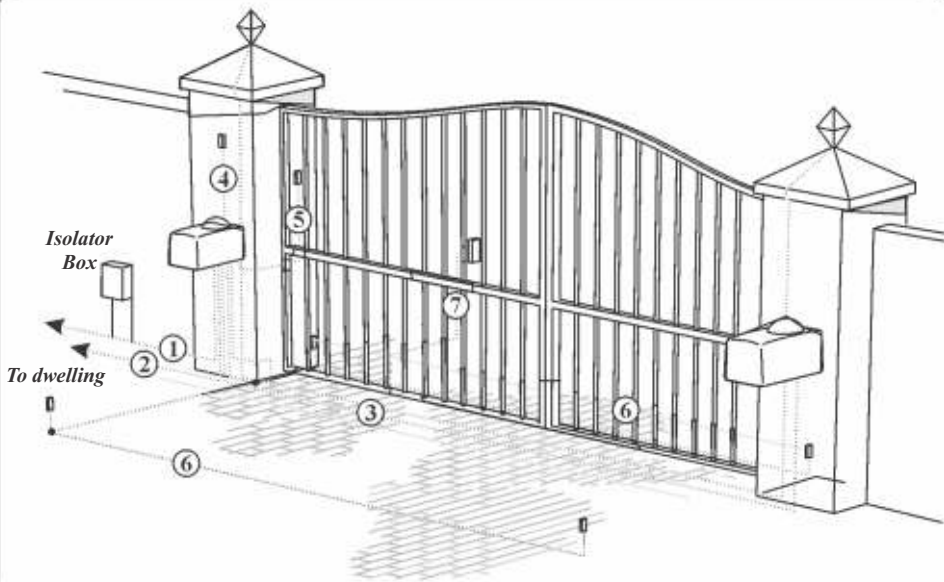

Figure 9 Cabling Requirements
Consider all cabling requirements and routing as in Figure 9. (*IM* page 14)
- Route cables as determined in the cabling plan in Figure 9.